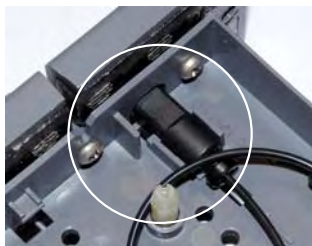

Figure 5
- Remove the fitting plug from the outlet fitting on the separator column. Orient the fitting with a flat side up (see Figure 5) and push the fitting into the opening at the front of the column cartridge until it stops.